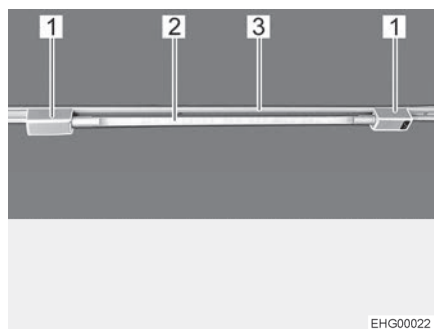

Fig. 54 Fluorescent tube
- Insert both brackets (Fig. 54,1) into the rail (Fig. 54,3). In order to do this, turn bracket through 90°.
- Plug lamp body (Fig. 54,2) into one of the brackets.
- Turn lamp body handle (Fig. 54,2) until the desired lighting effect is achieved.